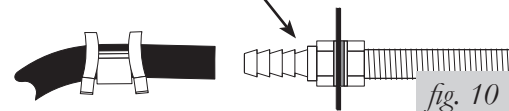

fig. 10
10. Slide the air line clamp over the air line. Push the air line onto the fitting covering all barbs. Using pliers, slide the air line clamp forward until it fully covers the barbed section (fig. 10).
9. Slide a clamp onto the air line and push the air line over the fitting, covering all the barbs. With pliers slide the air line clamp forward until it fully covers the barbed section (see fig. 10).